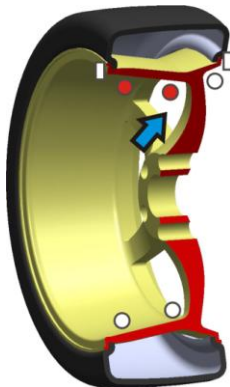

Fig. 6
4.2.5. Anticlockwise moving wheel slowly, the displays with right LED's lit up full indicate the correct angular position where to mount the counterweights, **12 o'clock position** outside, as **Fig.6**, add the counterweight.